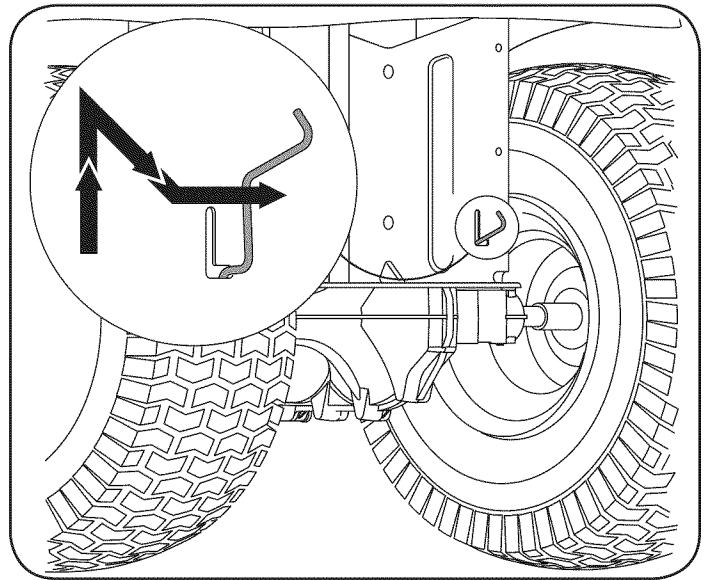

Figure 10
1. Locate the hydrostatic bypass rod in the rear of the tractor. See Fig. 10.